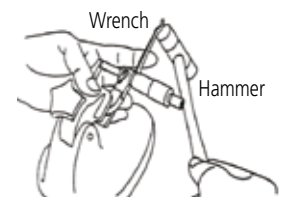

Fig. 1
- If the zero point is off, reset by rotating the sleeve with the wrench, tapping the wrench gently with a hammer if necessary. **(Fig. 1)**